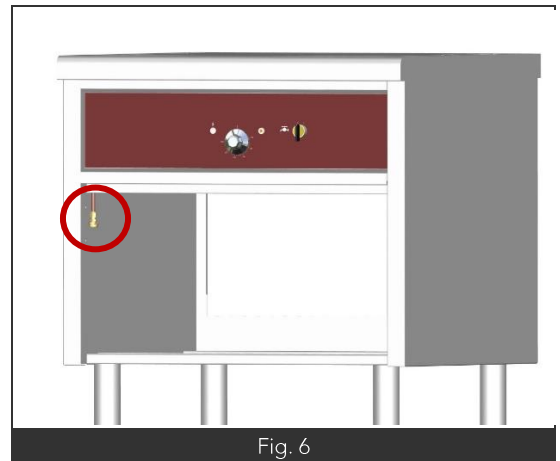

Fig. 6
- Your water hose should be connected to the connector located underneath the plancha or inside the plancha's closed cabinet if fitted (Fig. 6).